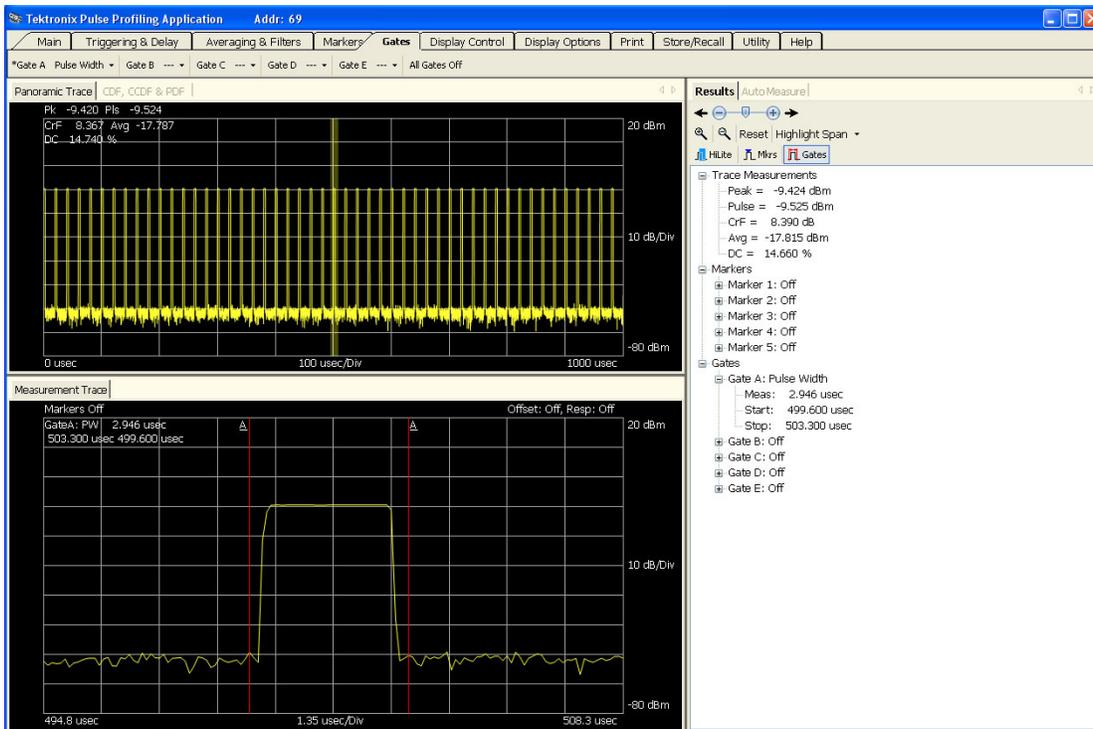

Figure 5: Position of gates for measurement
- a. Click on the left gate in the Measurement window and move it to the left until the rising edge of the pulse is positioned to the right of the left gate. (See Figure 5.)
- b. Click on the right gate in the Measurement window and move it to the right until the falling edge of the pulse is positioned to the left of the right gate. (See Figure 5.)